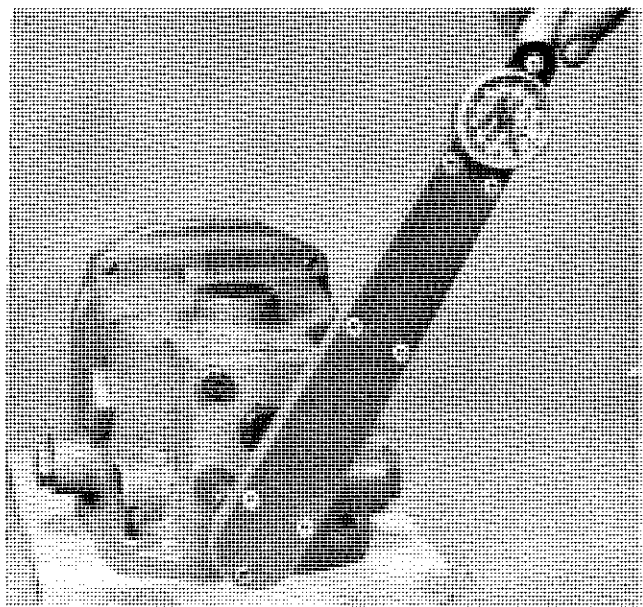

Figure VI-43. Torquing Replenishing Pump Cover Screws
- b. Torque four screws on the replenishing pump to 25-30 ft. lbs. (3.4 to 4.1 Kg m) (Figure VI-43).